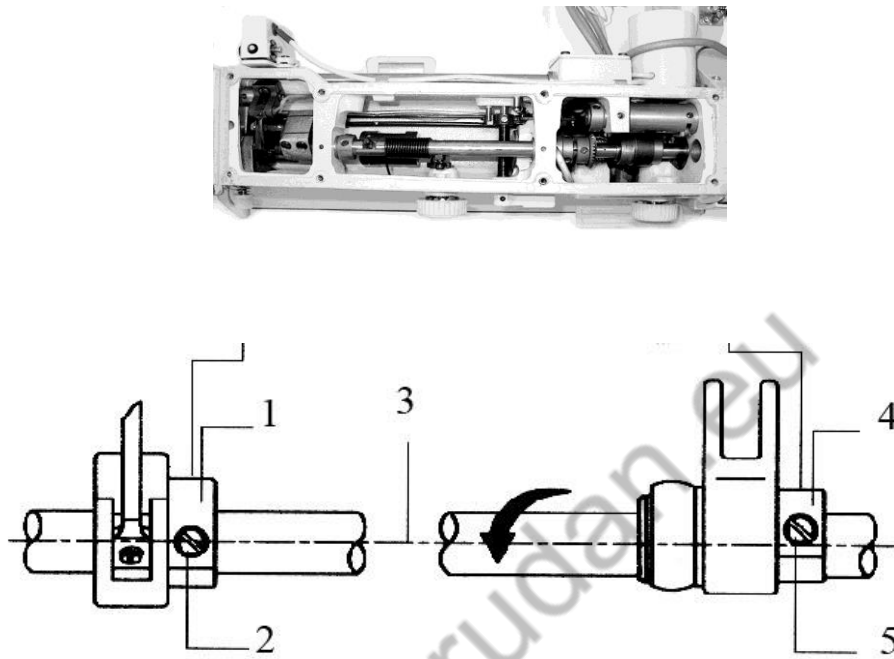

Fig.24
Position between feed dog and needle can be adjusted by turning the cam (4). Set the upper stop position of needle by turning the hand wheel. Set the cam so that after setting the presser foot pressure the screw (2) on the cam (1) is in the axis of the shaft (3) and simultaneously side edge of the screw (5) should be levelled with this axis. See fig.24.